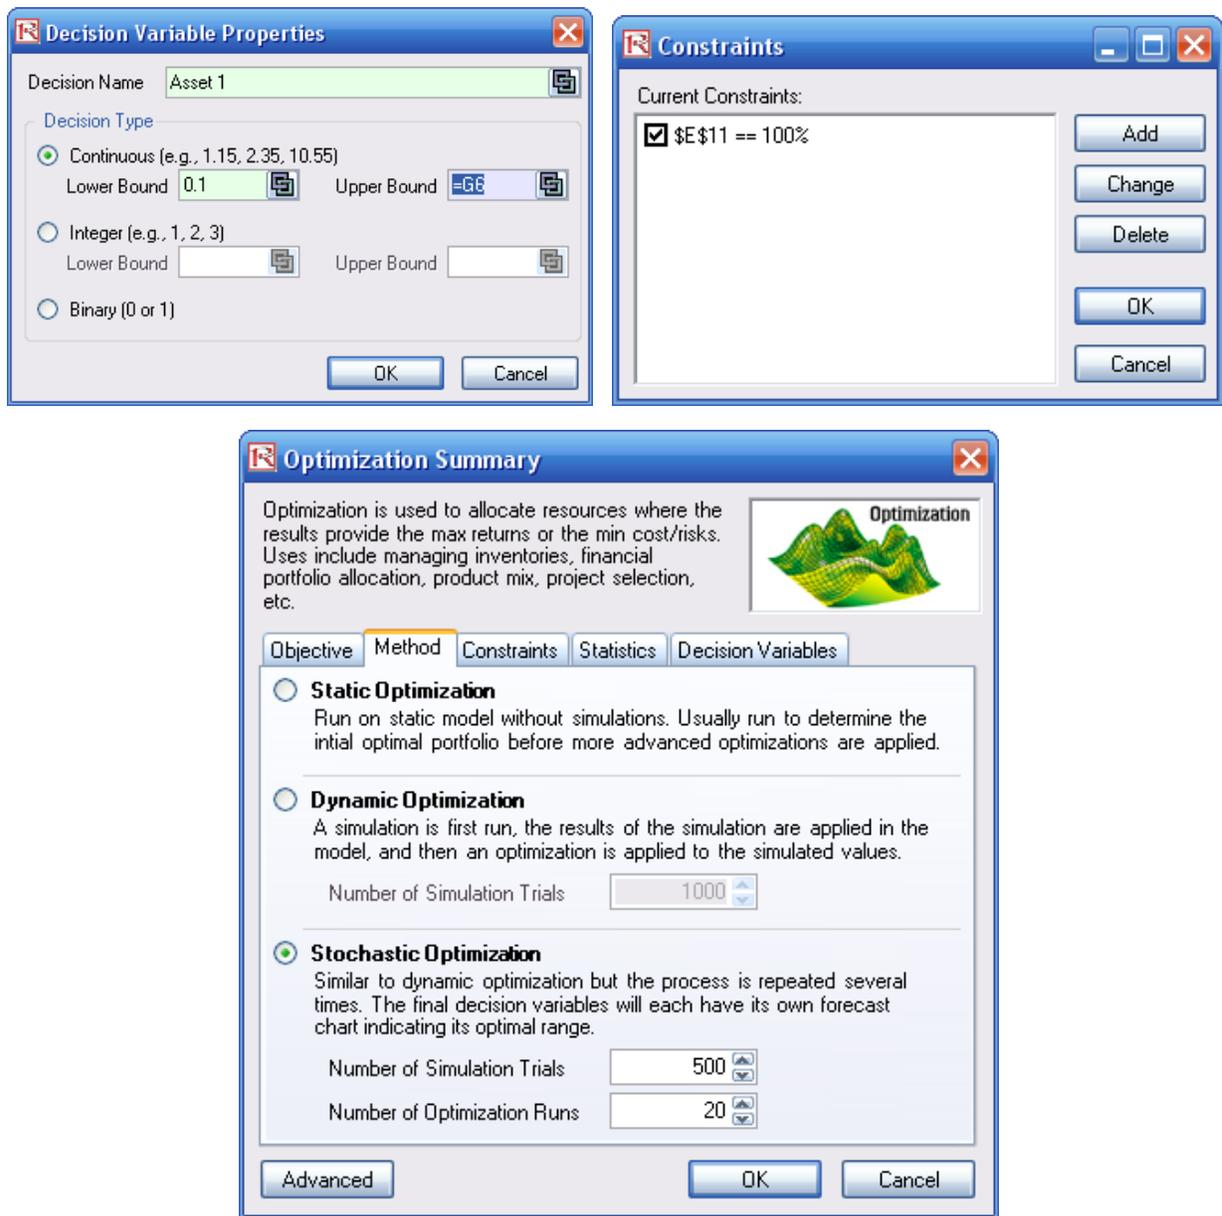

Figure 4. Setting up the Stochastic Optimization Problem
7. Run the optimization by going to *Risk Simulator | Optimization | Run Optimization*. Review the different tabs to make sure that all the required inputs in steps 2 and 3 are correct. Select *Stochastic Optimization* and let it run for 500 trials repeated 20 times (Figure 4 illustrates these setup steps).
- Super Speed Simulation with Optimization.* You can also run stochastic optimization with super speed simulation. To do this, first reset the optimization by resetting all four decision variables back to 25%. Next select *Run Optimization*, click on the *Advanced* button (Figure 4), and select the checkbox for *Run Super Speed Simulation*. Then, in the run optimization user interface, select *Stochastic Optimization* on the *Method* tab and set it to run 500 trials and 20 optimization runs, and click *OK*. This approach will integrate the super speed simulation with optimization. Notice how much faster the stochastic optimization runs. You can now quickly rerun the optimization with a higher number of simulation trials.